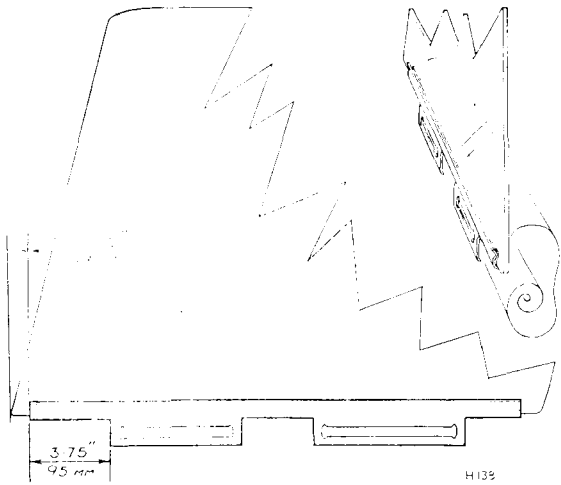

Fig. 45. Door glass/channel
1. Place one end of the polythene sheet together with the rubber weatherstrip over the channel run, Fig. 45.
2. Position the glass, as shown on Fig. 45 and compress the glass into the channel.